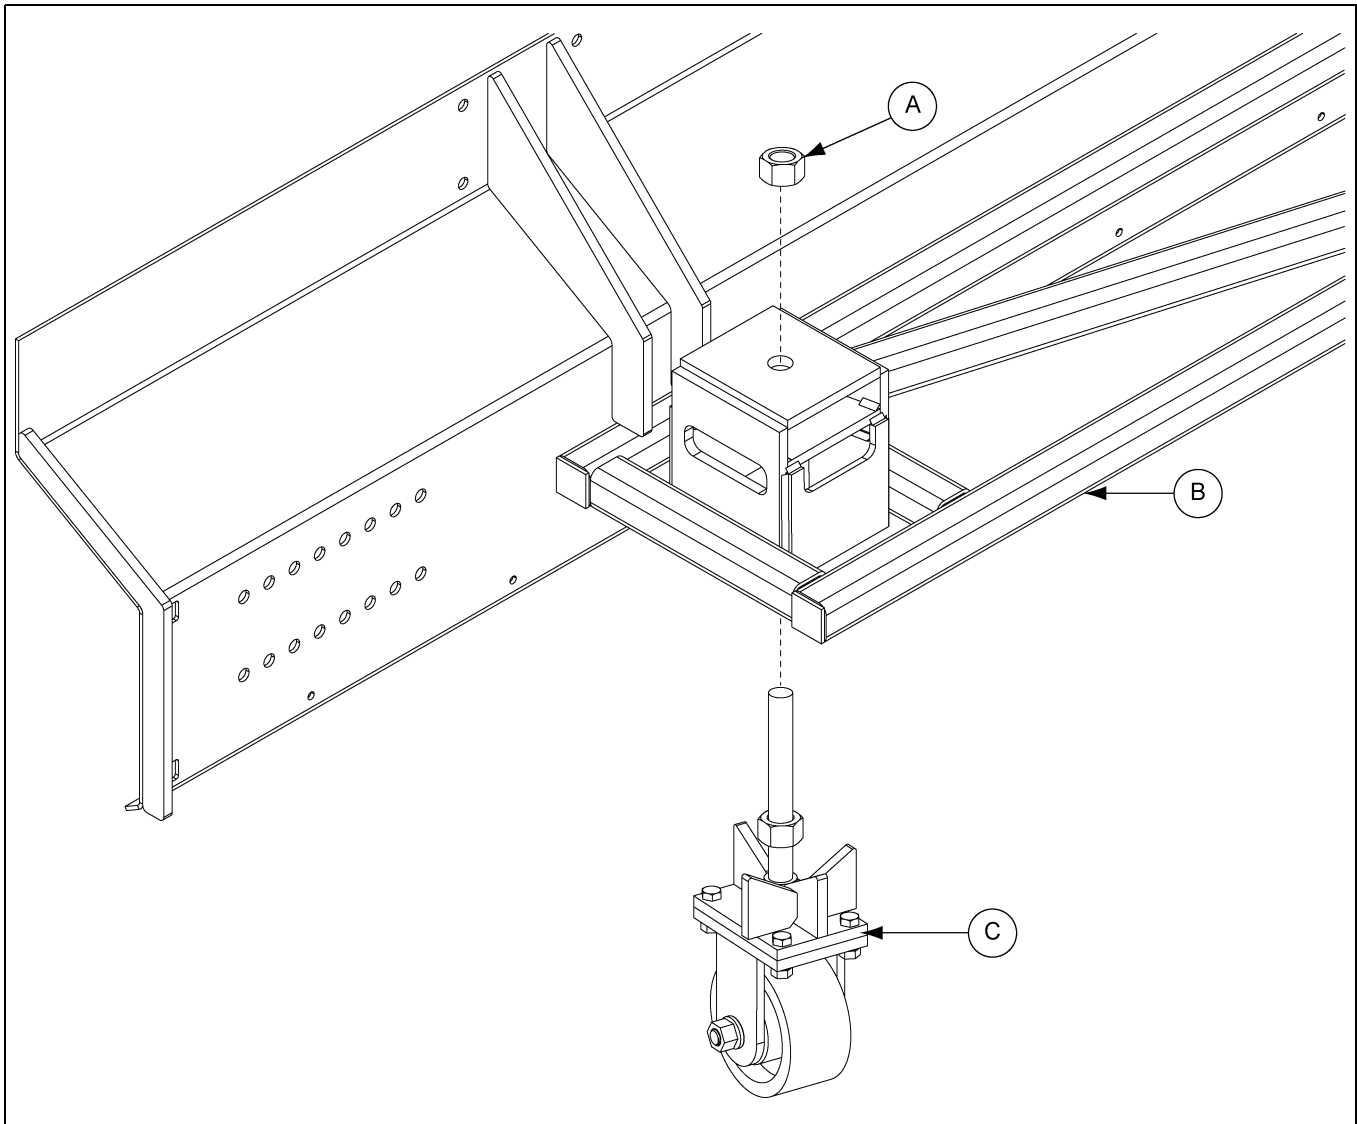

Figure 7B
1. Install all caster wheel assemblies (C) to all sweep shields (B). (See Figure 7B.)
2. Install hex nut (A) to caster wheel assembly (C).